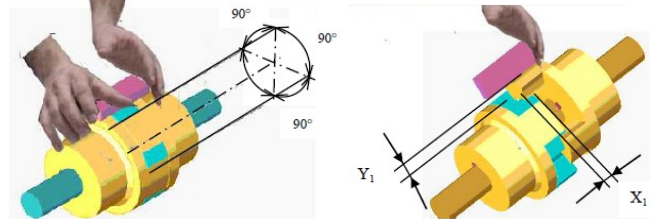

Figure 5: The Control of the Coupling Alignment in Horizontal and Vertical Planes
1.Paralel Axis Misalignment (Figure 5)